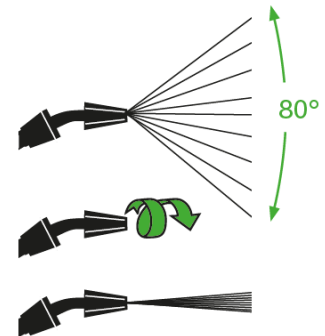

Fig. 4
- Pull the trigger (11) on the handle to begin spraying. For continuous spraying, lock the trigger using the trigger lock (10).
- Adjust the spray pattern by rotating the spray nozzle (7). Refer to Fig. 4.